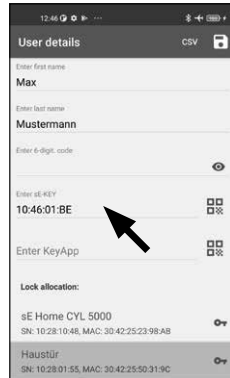

Fig. 59
- 1 Tap the relevant line (Fig. 59) to delete the entry.